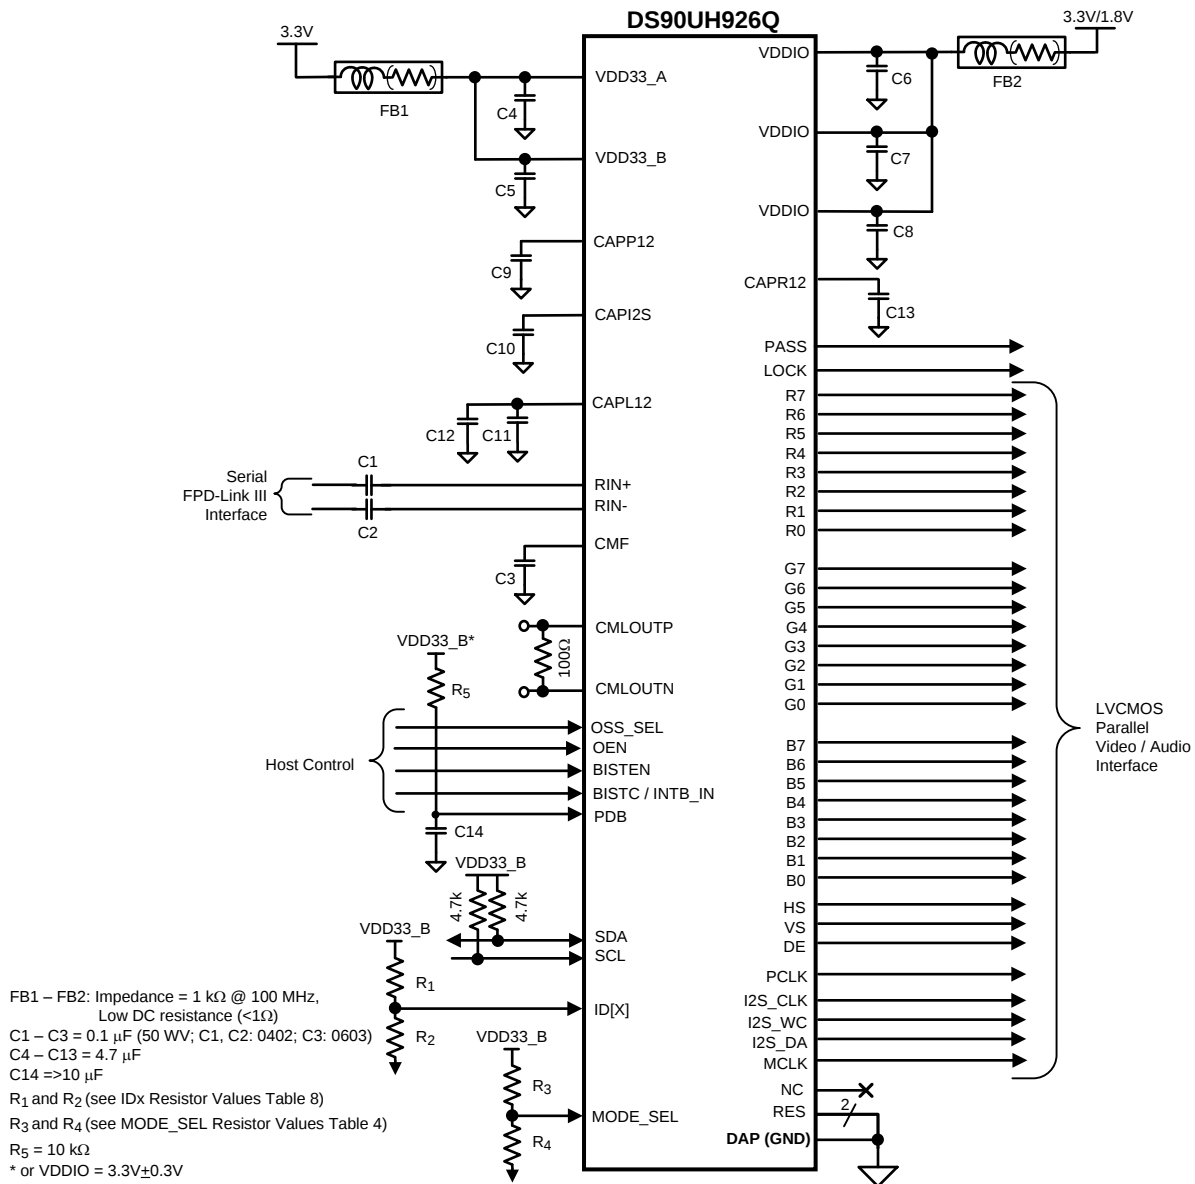

Figure 23. Typical Connection Diagram
Figure 23 shows a typical application of the DS90UH926Q deserializer for an 85 MHz 24-bit Color Display Application. inputs utilize 0.1 μ F coupling capacitors to the line and the deserializer provides internal termination. Bypass capacitors are placed near the power supply pins. At a minimum, seven 0.1 μ F capacitors and two 4.7 μ F capacitors should be used for local device bypassing. Ferrite beads are placed on the power lines for effective noise suppression. Since the device in the Pin/STRAP mode, two 10 k Ω pull-up resistors are used on the parallel output bus to select the desired device features.
- Updated "Figure 23. Typical Connection Diagram"